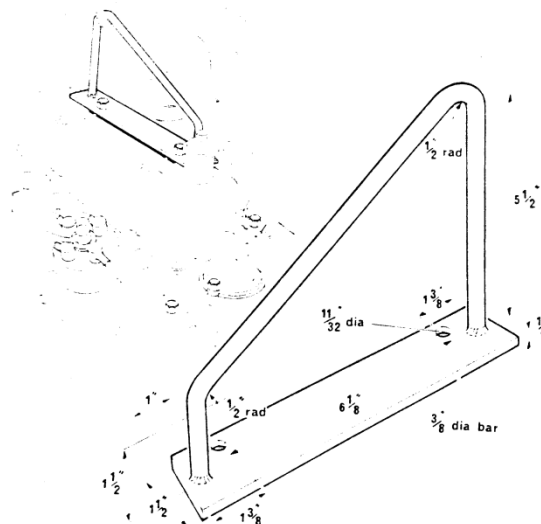

Figure 1 Hoist bracket for engine removal
The engine and gearbox assembly is removed from the vehicle by lifting it through the bonnet aperture. This operation will be greatly facilitated by the use of a hoist bracket that locates on the rocker box studs. The bracket can be constructed as shown in **Figure 1**. The use of this bracket plus the availability of a hoist is assumed in the following information.
28. Install the engine hoist bracket on to the rocker cover studs (**Figure 1**) securing it with the rocker cover nuts.